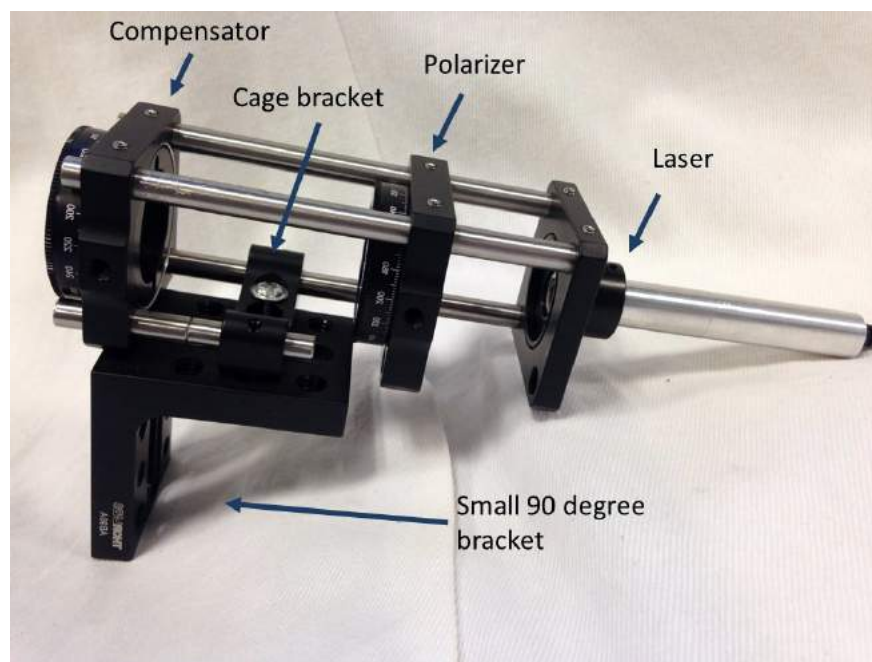

Figure 48: Fully assembled laser cage
3. Slide three 4" posts into the laser plate (see Figure 48). Level the posts and tighten the setscrews to keep the posts in place.
5. Slide the cage bracket (CP02B) onto only ONE post (see Figure 48). Adjust it until it is about 1" from the polarizer in step 4.